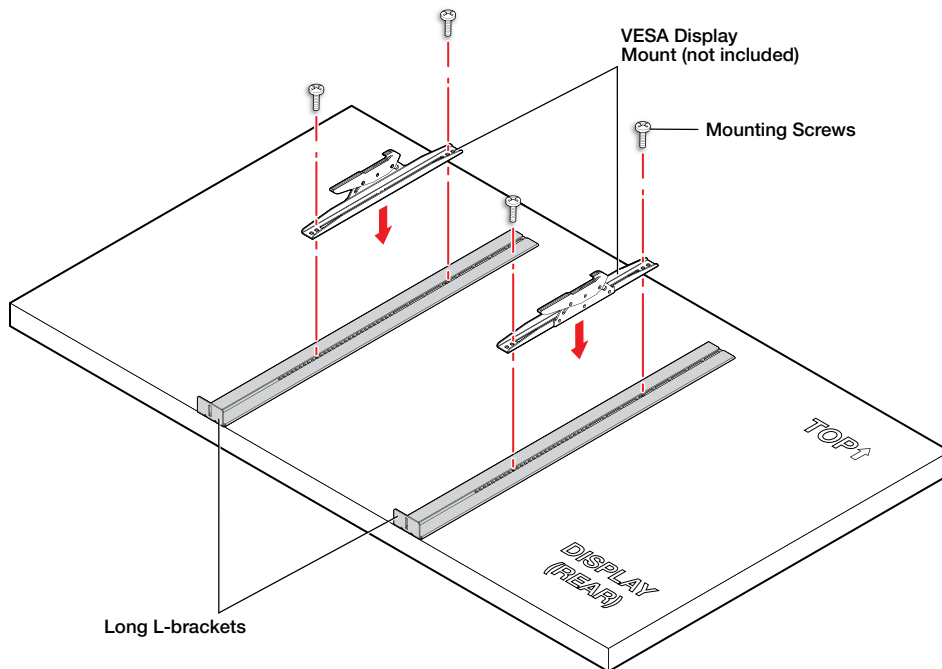

Figure 40. Installing VESA Display Mount
4. Insert bolts through the VESA display mounts, the long L-brackets, and the display, making sure to align the bolt holes of the VESA display mounts with the bolt holes of the display (see figure 40). Tighten all four bolts. Spacers are provided if needed.